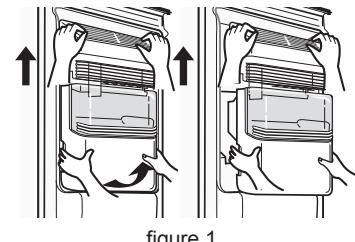

figure 1
- Grip the handle as shown in the figure 1.